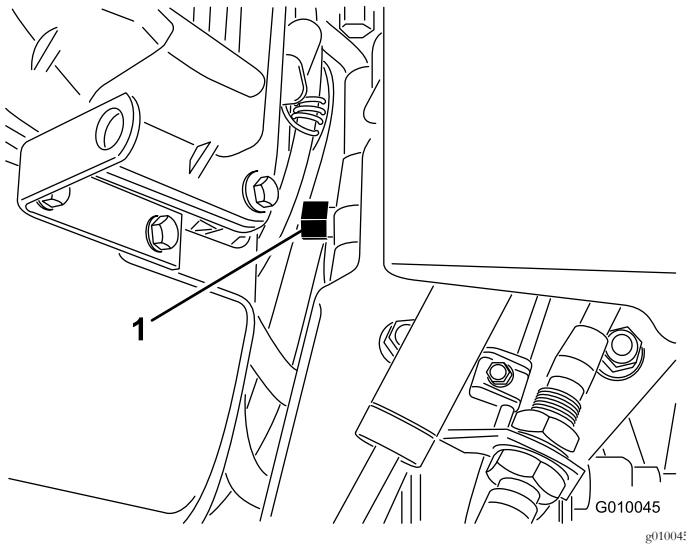

Figure 30
2. Locate the bypass valve between the engine and hydrostatic pump (Figure 30).
3. Using a 5/8 inch wrench, rotate the bypass valve counterclockwise 1 turn. This allows the hydraulic fluid to bypass the pump enabling the wheels to turn (Figure 30).
5. To operate the aerator again, rotate the by-pass valve clockwise 1 turn (Figure 30).